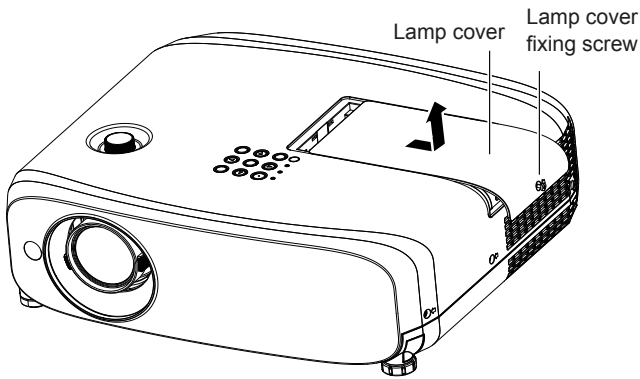

Fig. 1
- 2) **Remove the lamp cover. (Fig. 1)**